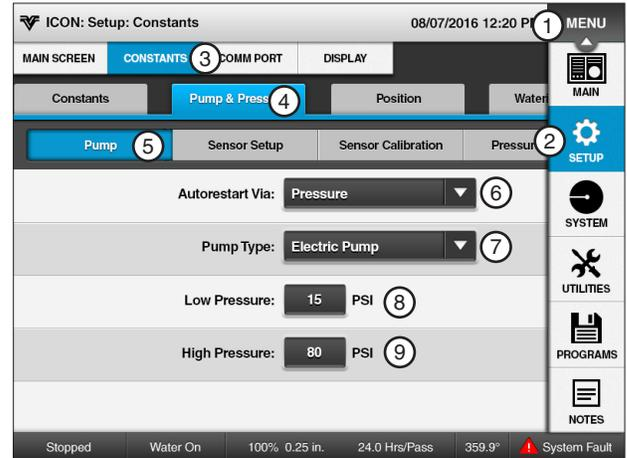

Figure 21-1
The **Pump Type** field is used to select and control the type of pumping unit that is being used with the machine. The choices are **Engine Pump** or **Electric Pump**. The factory default setting is **Electric Pump**. Refer to Figure 21-1.
1. Push **Menu, Setup, Constants, Pump & Pressure** and **Pump**. Refer to Figure 21-1.
- a) Select the **Auto Restart Via** drop-down menu. Refer to Figure 21-1.